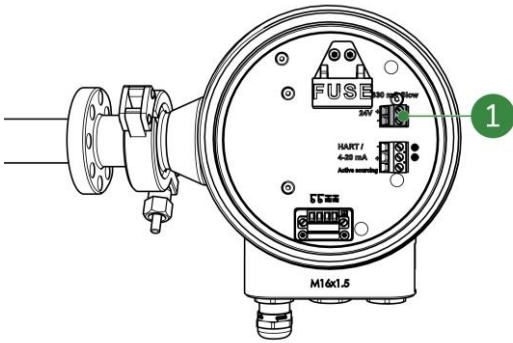

Figure 5-17: Power connection
3. Connect the power cable to the power connection (Figure 5-17, pos. 1) using the screw connectors.